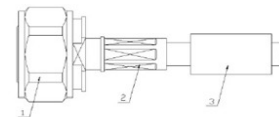

Figure 4
2. Insert the cable assembly into the connector ensuring that it goes in as far as possible as shown in Fig 4.